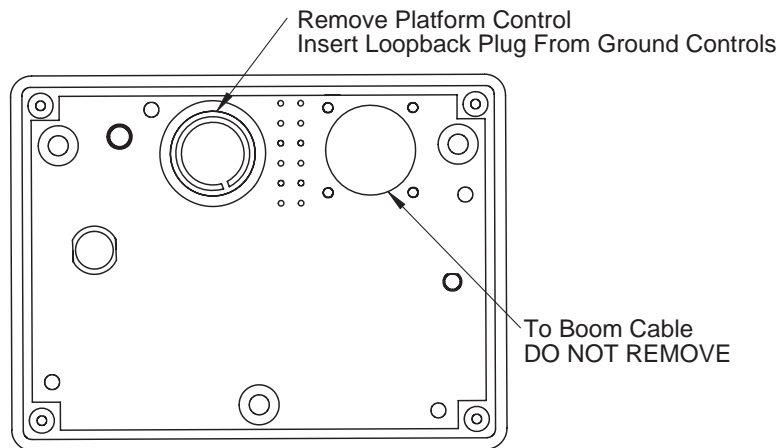

Figure 7-2. Load Sense Module
- Disconnect the electric loopback plug from the receptacle on the bottom right of the Ground Control Box and insert it into the Platform Control Box. See Figures 7-2 & 7-3.